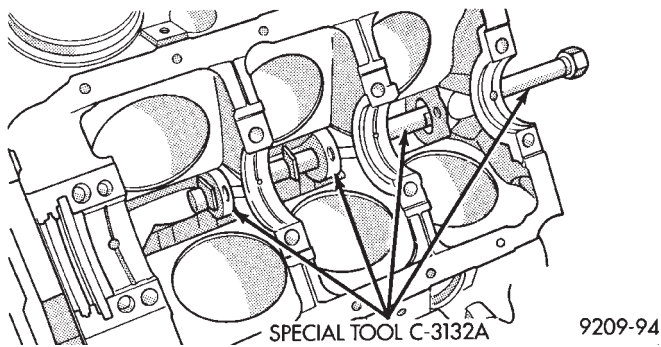

Fig. 13 Removed Installation of Camshaft Bearings with Tool C-3132A—Typical
- (1) With engine completely disassembled, drive out rear cam bearing core hole plug.
- (2) Install proper size adapters and horse shoe washers part of Tool C-3132-A at back of each bearing shell to be removed and drive out bearing shells (Fig. 13).